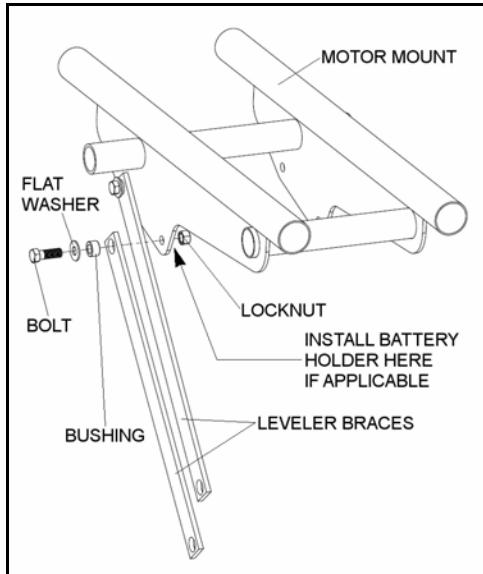

Figure 3.30 Mount Assembly
5. Attach 2 vertical leveler braces to side of motor mount as shown in Figure 3.30. Use two 7/16" x 1-1/2" bolts, locknuts, 7/16" flat washers and leveler bushings to install the leveler connector. Each bolt should be installed by first putting a washer on it, followed by a bushing. Pass the bolts through the vertical leveler brace first, and then the motor mount.
→ If your auger comes with a battery holder, install holder before attaching locknut (see Figure 3.30). Use two 7/16" x 1" bolts and locknuts to secure the other side of the holder. See "Battery Mount (Optional)" on page 46.